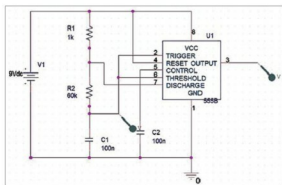

Fig. 15: Circuit with test points
8. Place markers at the corresponding (test) points of circuits where you need to observe the output. For selecting a marker, go to PSpice→Markers→Voltage Level (for voltage reading) as shown in Fig. 15.